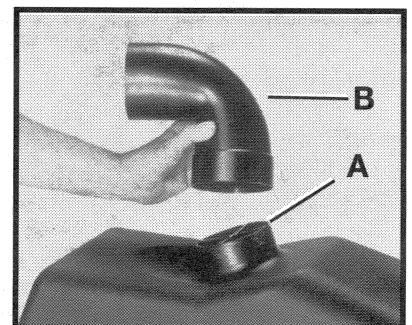

Fig. 35
The drum cover has a 4" O.D. dust chute (A) Fig. 35 that connects to a dust collection system. **IMPORTANT: NEVER OPERATE THIS MACHINE WITHOUT FIRST CONNECTING IT TO A DUST COLLECTION SYSTEM.** It is recommended that a dust collection system be used with at least 400 to 600 CFM capacity.
Attach a 4" hose to the hood, or attach an accessory dust collector elbow (B) Fig. 35 to the dust chute (A). Attach the dust collection system to the elbow (B). **CAUTION: FOR OPERATOR SAFETY, NEVER PUT FINGERS OR ANY OTHER FOREIGN OBJECT IN THE DUST CHUTE.**